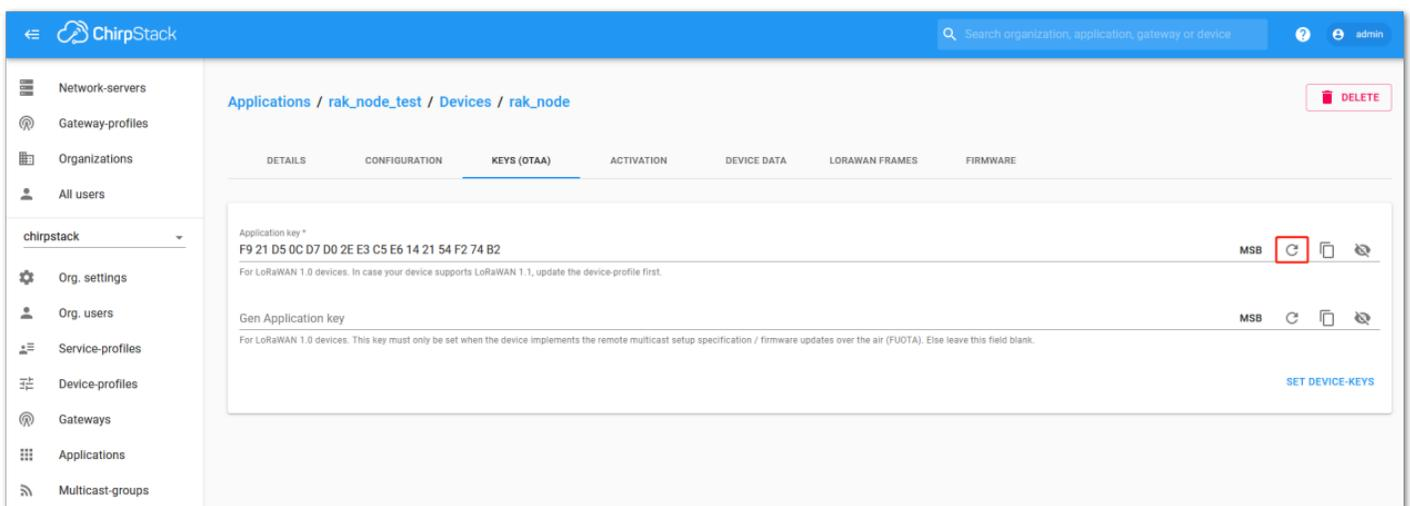

Figure 80: Chirpstack OTAA Set Application Keys
2. A previously created Application Key can be entered here, or a new one can be generated automatically by clicking the icon highlighted in red in **Figure 80**.